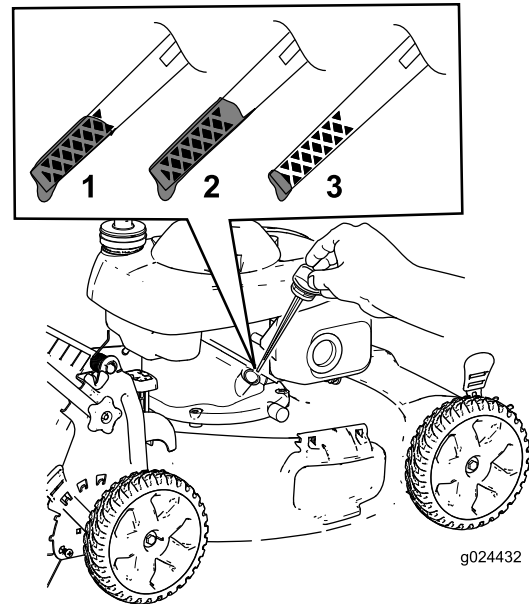

Figure 20
3. Remove the dipstick (Figure 20).
10. Read the oil level on the dipstick (Figure 20).